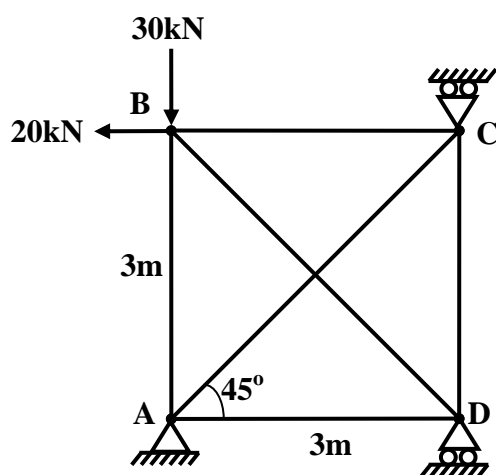

Fig. 4
6. Analyze plane truss shown in fig.4 by Flexibility Matrix Method system approach.